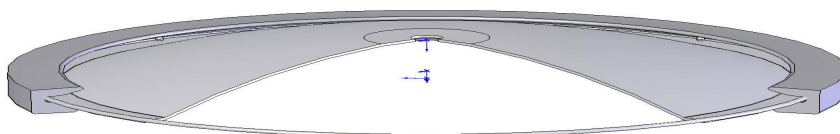

Figure 74
2. Check if the door gasket frame, door gasket plate are installed into the gasket completely as shown in Figure 74.